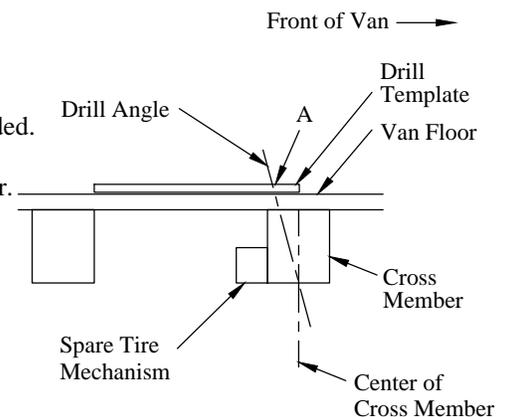

Figure 5: Section Y-Y, side view of "A" drilling location (side view).
15. **Drill** a 3/8" hole in the center "A" location only: angle the drill toward the front of the vehicle, and only drill through the floor, not through the cross member below (Figure 5). This is done to avoid the spare tire mechanism below the floor.
16. **Drill** a 3/8" hole, in the bottom of the cross member below the center "A" location. Drill up from the bottom side, in the center-middle of the cross member (Figure 5). Do not drill through the floor, drill only through the bottom of the cross member.